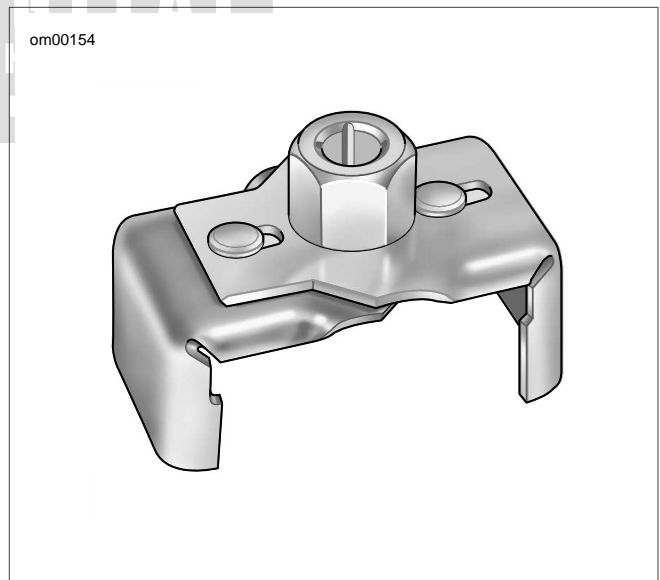

Figure 1-4. Oil Filter Wrench (Part No. HD-42311)
4. See Figure 1-4. Remove the oil filter using the OIL FILTER WRENCH (Part No. HD-42311) or OIL FILTER WRENCH (Part No. HD-44067). Clean the oil filter mount flange of any old gasket material.